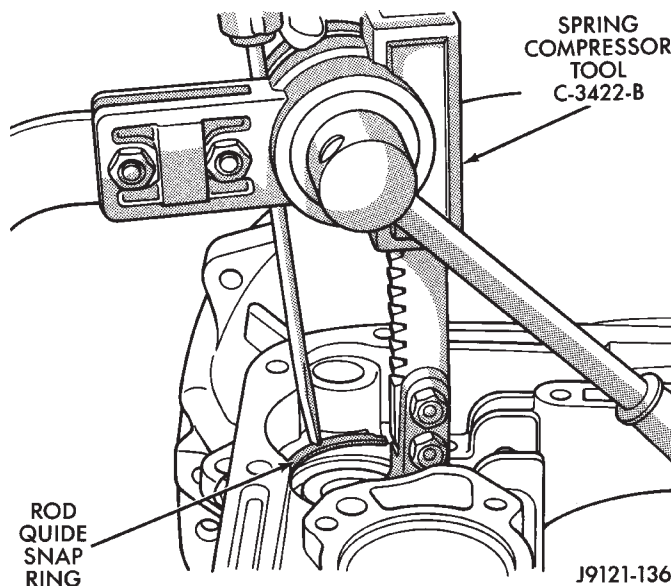
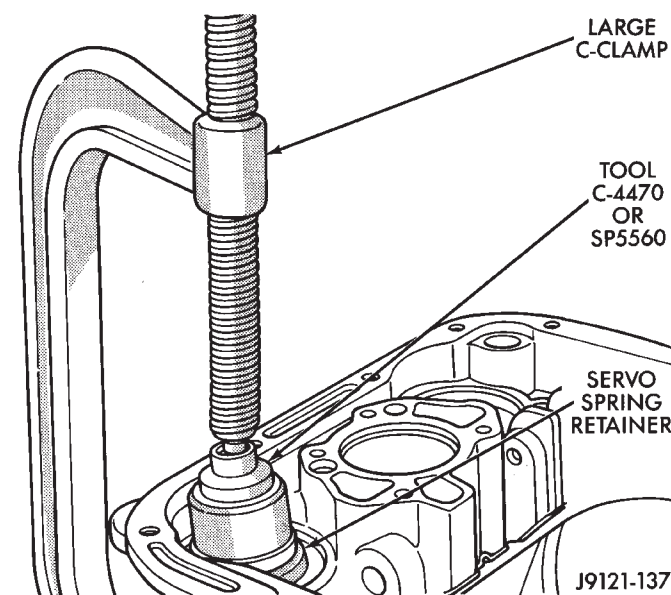

Fig. 91 Compressing Front Servo
Fig. 92 Compressing Rear Servo Spring
(33) Compress front servo rod guide about 1/8 in. with large C-clamp and Tool C-4470, or Spring Compressor Tool C-3422-B (Fig. 91).
(34) Remove front servo rod guide snap ring (Fig. 91). **Exercise caution when removing snap ring. Servo bore can be scratched or nicked if care is not exercised.**
(35) Remove compressor tools and remove front servo rod guide, spring and servo piston.
(36) Compress rear servo spring retainer about 1/16 in. with C-clamp and Tool C-4470 or SP-5560 (Fig. 92). Valve Spring Compressor C-3422-B can also be used to compress spring retainer.
(37) Remove rear servo spring retainer snap ring. Then remove compressor tools and remove rear servo spring and piston.
with Compressor Tool C-3422-B (Fig. 92) or a large C-clamp.
(2) Install front servo piston, spring, and rod guide. Compress front servo rod guide with Valve Spring Compressor C-3422-B and install servo snap ring (Fig. 91).